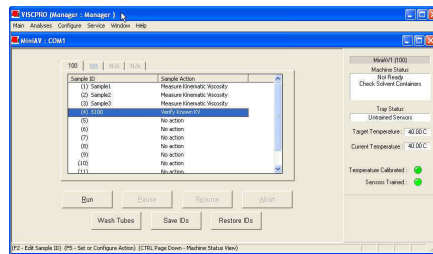

Figure 9: Sample Input Window
8. Select the desired **Group Id** and Click **OK** to display the **Sample Input View** as shown in Figure 9. Then click the tray corresponding to the desired miniAV.